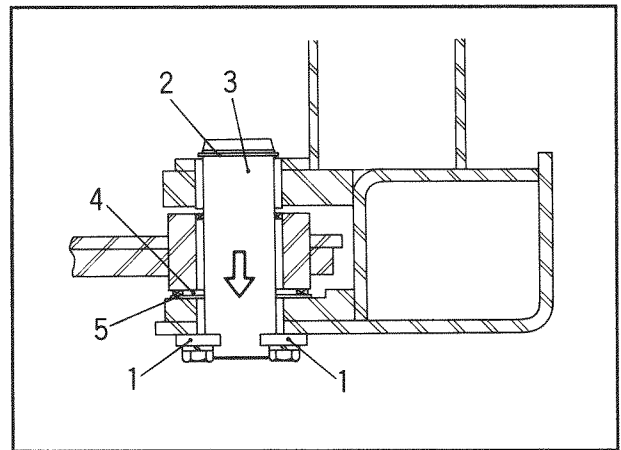

Fig. 51.6 Lower Hinge
- ④ Remove the lower hinge pin set bolts, and remove the set plates (1 in Fig. 51.6).
- ⑤ Remove the lower hinge pin snap ring (2).
- ⑥ Remove downward the lower hinge pin (3).